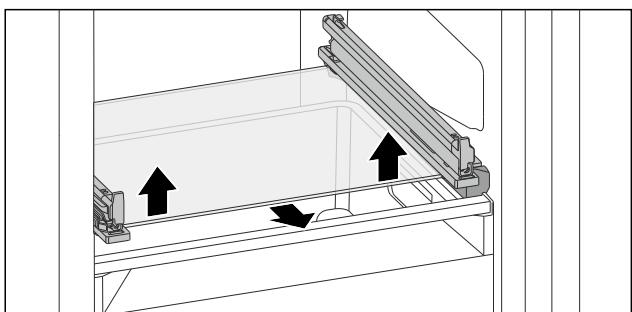

Fig. 107 Tilting drawer glass shelf
- ▶ Push glass shelf upwards from below on both sides. (see Fig. 107)